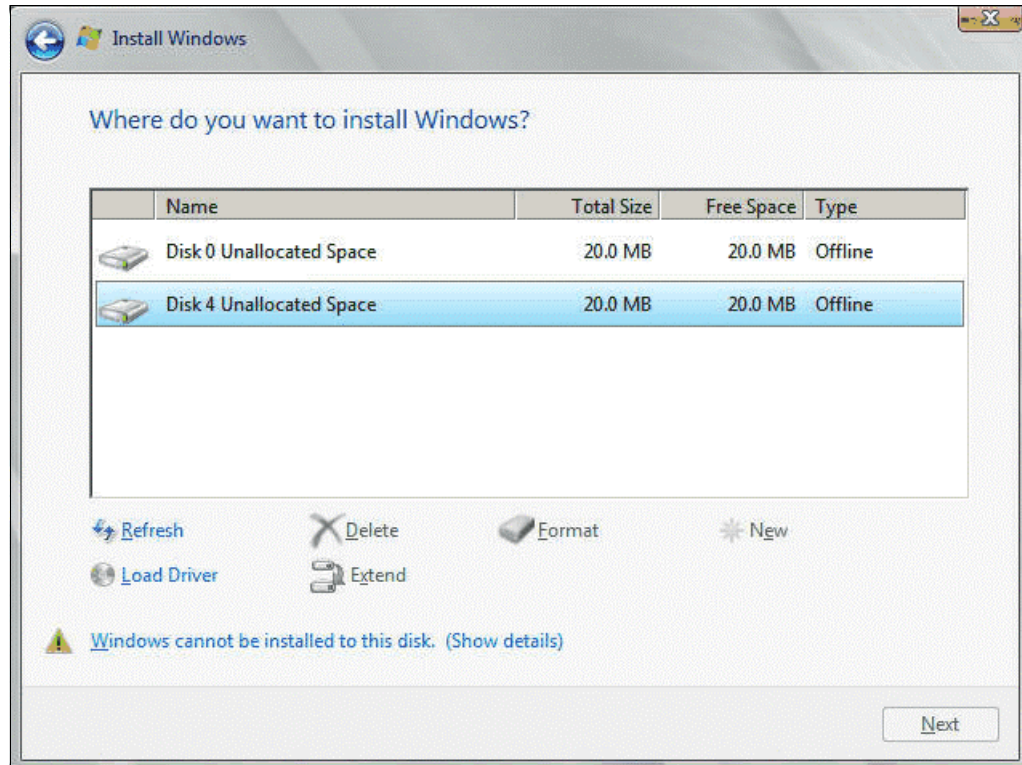
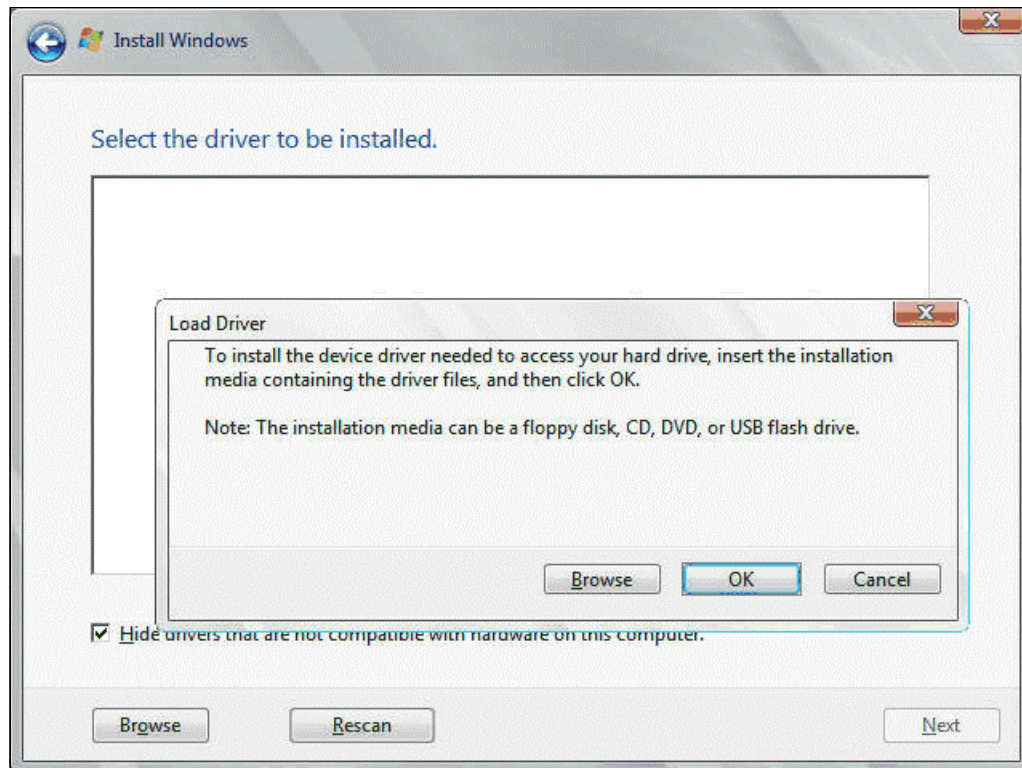

Figure 5-73 Without SAN Volume
Figure 5-74 Loading HBA driver
5. Follow the instructions by Microsoft to install Windows 2008 R2 with SP1, until it reaches the dialog box with the highlighted question, **Where do you want to install Windows?**, as shown in Figure 5-73.
6. If you do not see the Volume (by size) in the list, it means that Windows did not have the drivers for the HBA. You need to add it manually by clicking the **Load Driver** button at the bottom-left of the window, as shown in Figure 5-73. The resulting load driver window is shown in Figure 5-74.